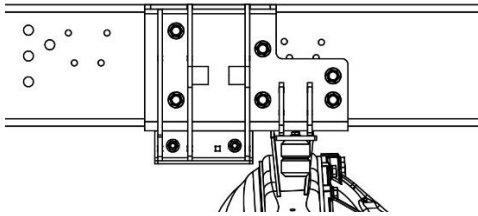

Figure 14. Passenger Side (RH) Upper Strut Mount Installation.
- Loosely attach the Right Hand Upper Strut Mount and Cross-Member End Channel to the frame using (6) 5/8"-11 x 2" Hex Flange Bolts and (6) 5/8"-11 Locking Flange Nuts. Refer to Figure 14. Note orientation of the End Channel as shown above.